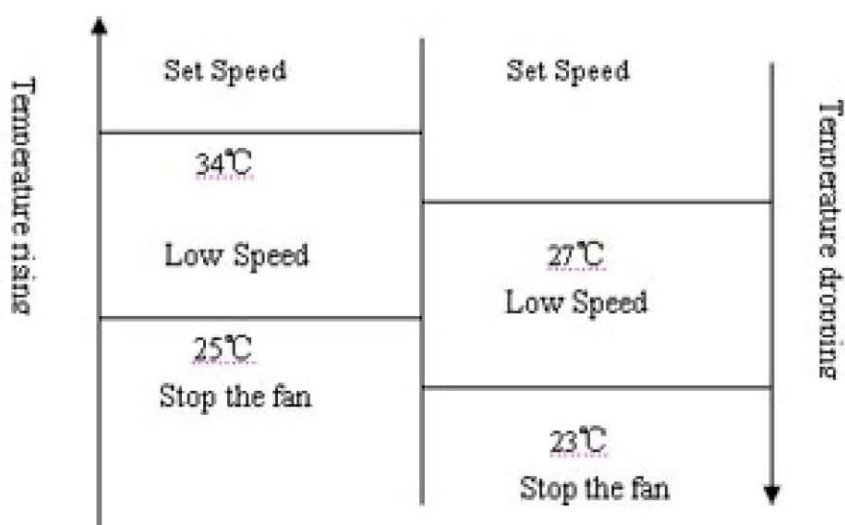

Figure 5 Anti-cold Wind
a. When runing into the heating mode, once the compressor fails to comply with the start-up conditions, the wind speed is regulated according to the coil temperature in 2 min(including stopping the indoor fan motor), 2 min later the indoor fan motor stops.If the compressor starts up within 2 min, then operating by Figure 5.